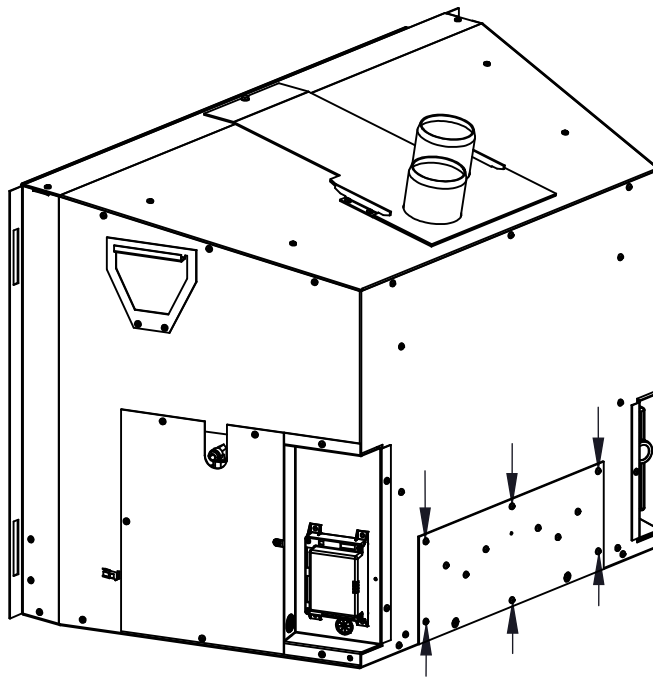

Figure 22: Fan Mount Removal.
1. Use a T-20 screwdriver to remove the screws that hold the Fan Mounting Plate in place See Figure 22.
3. The Fan is removed from the Mounting Plate by removing the six (6) screws that hold it in place using a T-20 screwdriver.